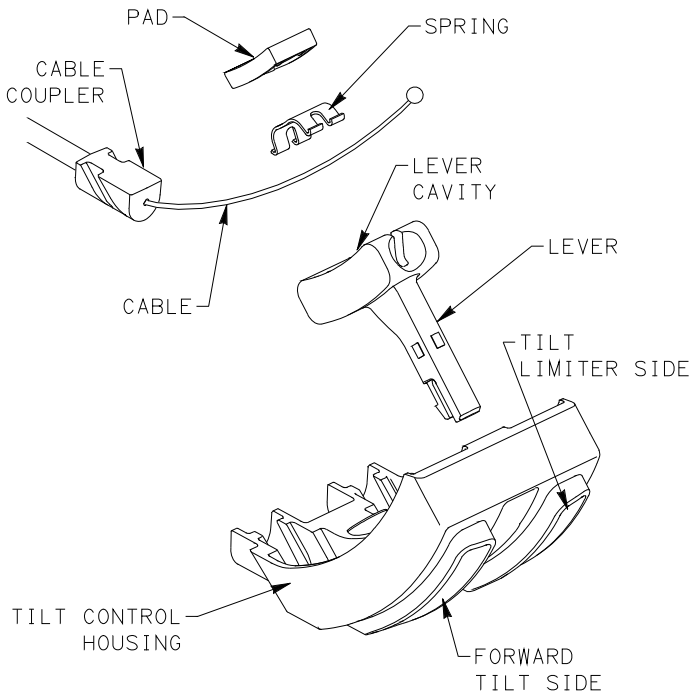

FIGURE 15
11. REMOVE AND SET ASIDE PAD AND SPRING FROM LEVER. REMOVE CABLE FROM LEVER. PROPERLY DISPOSE OF LEVER. SEE FIGURE 15.
12. INSTALL REPLACEMENT LEVER INTO TILT CONTROL HOUSING USED FOR TILT LIMITER CONTROL. SLIDE CABLE COUPLING INTO TILT CONTROL HOUSING AND SLIDE CABLE INTO LEVER. INSERT SPRING OVER CABLE INTO CAVITY OF LEVER. PLACE PAD OVER SPRING. REPEAT PROCEDURE IF CHAIR WAS MANUFACTURED WITH FORWARD TILT OPTION. SEE FIGURE 15.